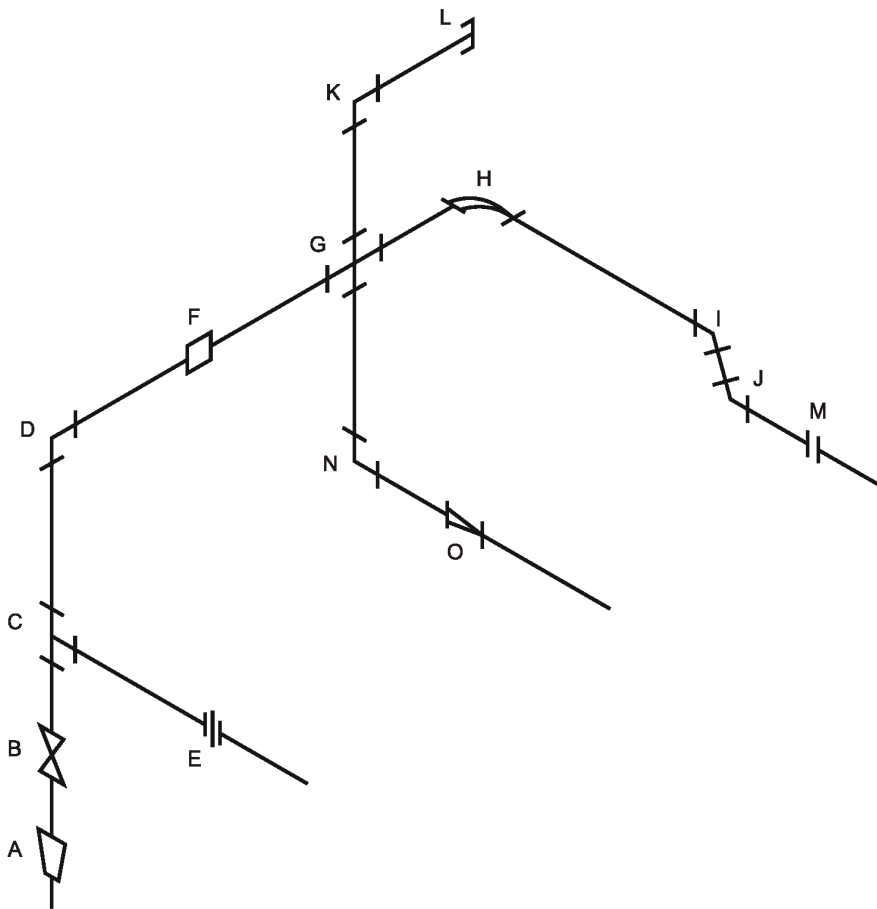

Figure 3-1. Typical sketch of a pipe circuit.
3. What type of sketch is shown in Figure 3-1?
4. Identify the items labeled in the sketch shown in Figure 3-1.